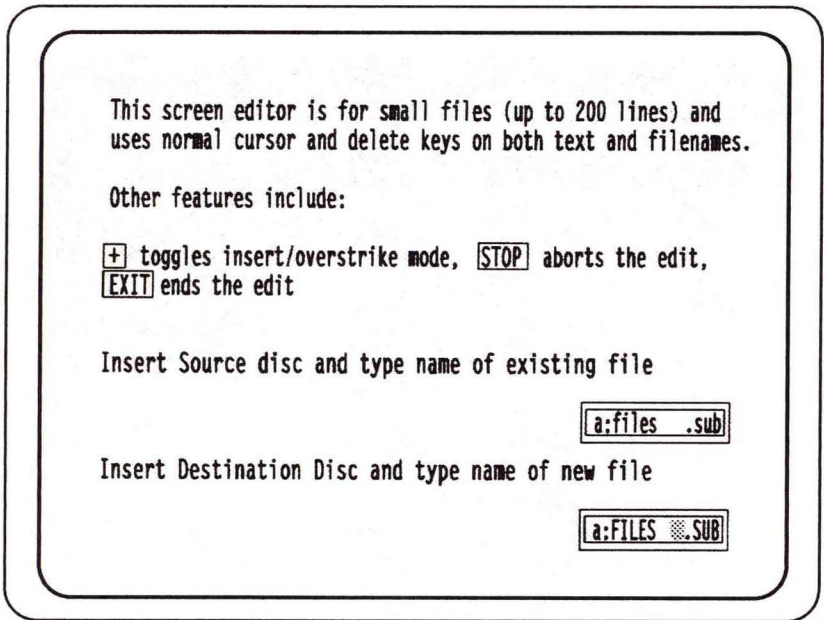

Figure 1-4: RPED opening screen - editing an existing file
- 3 When RPED asks you for the file name, key-in **FILES.SUB** and tap **{RETURN}**. When RPED asks you to confirm the name and destination for the amended file, (see Figure 1-4) just tap **{RETURN}** again to get the text you keyed in earlier onto the screen.